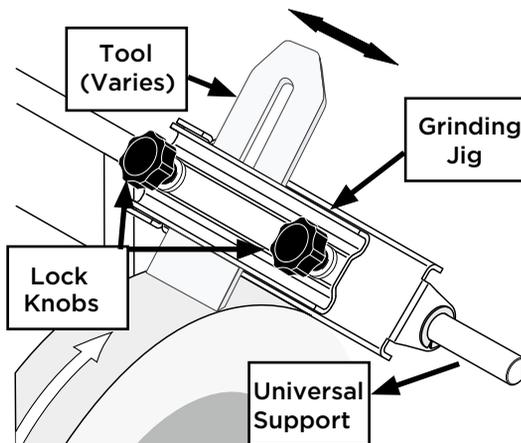

Figure 8. Grinding jig installed
- Slide the grinding jig onto the universal support, as illustrated in Figure 8.